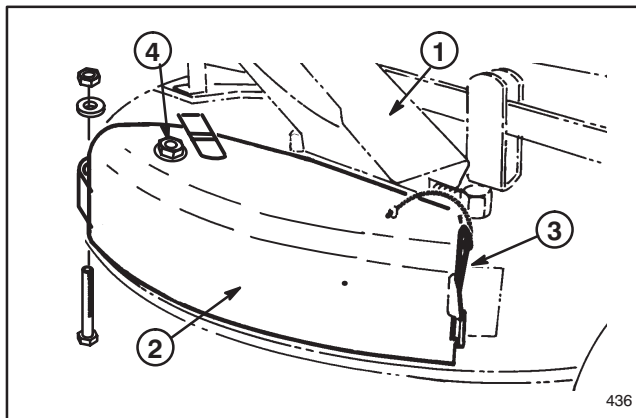

Figure 9
1. Lift grass deflector and slide discharge cover under tab on top of deck and into front hinge (Fig. 9).
2. Slide hinge pin through hinge (Fig. 9).
3. Secure cover to top of deck with locknut and washer previously installed with kicker (Fig.9).
1. Raise grass deflector (Fig. 9).
2. Remove the hinge pin securing front discharge cover to mower housing (Fig. 9).